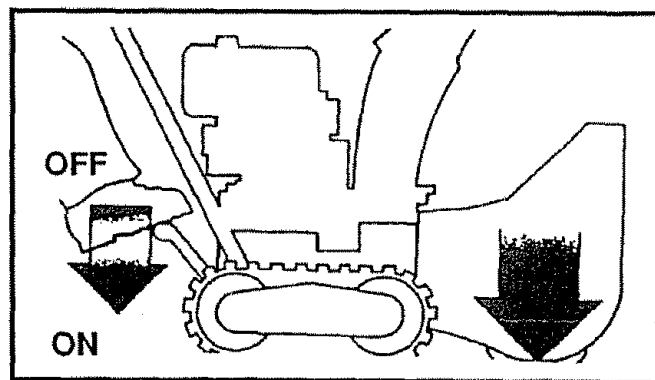

FIG.13
In hard packed or heavy snow conditions, conventional snow throwers tend to ride up and leave uneven mounds of snow behind. For these conditions, your new tracked snow thrower has a unique weight transfer system (See Fig. 13) designed to minimize ride-up.
- To use the weight transfer, hold the upper handle firmly and push down on the weight transfer pedal (See Fig. 13) with the ball of your foot.